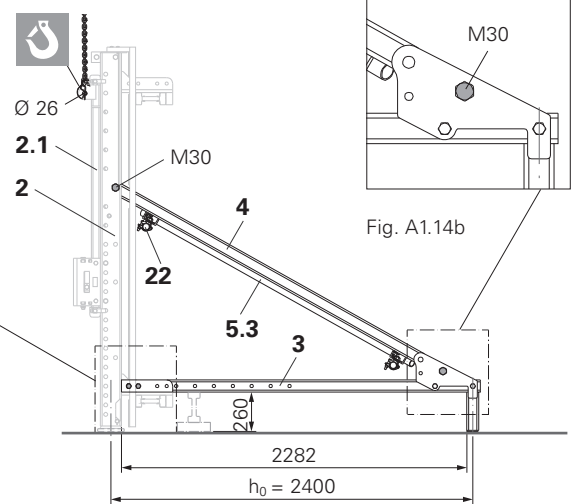

Fig. A1.14
1. Position board (14.1) on the Guardrail Post (10).
4. Connect Guardrail Post and boards using F.H. Bolt M8 x 100 and Nut M8. (Fig. A1.14)